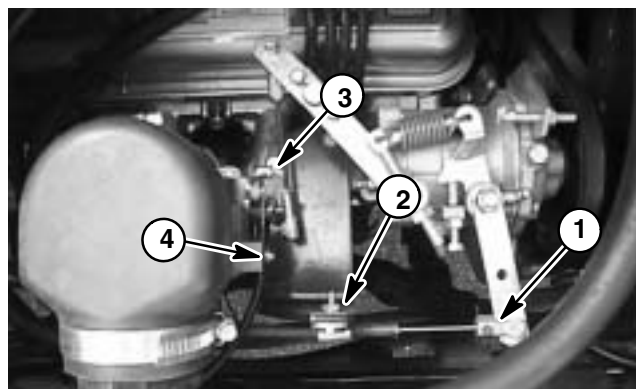

Figure 7
5. Remove two (2) flange head screws and hex nuts that secure upper and lower radiator shrouds.
A. Remove four (4) self-tapping screws and lock washers that secure oil cooler shroud to radiator.
B. Remove two (2) hex nuts and one (1) self-tapping screw and lock washer that secure radiator tube to radiator.
- A. Remove four (4) self-tapping screws and lock washers that secure oil cooler shroud to radiator.
8. Remove control cables from engine (Fig. 7).
1. Position radiator to the engine support frame. Place cushions between radiator and frame. Secure radiator to the support frame with two (2) bolts, flat washers and hex nuts.
7. Route throttle and choke cables to engine. Install choke cable to carburetor and throttle cable to control bracket (Fig. 7). Adjust choke cable (see Adjust Choke Cable in the Adjustments Section of this Chapter).